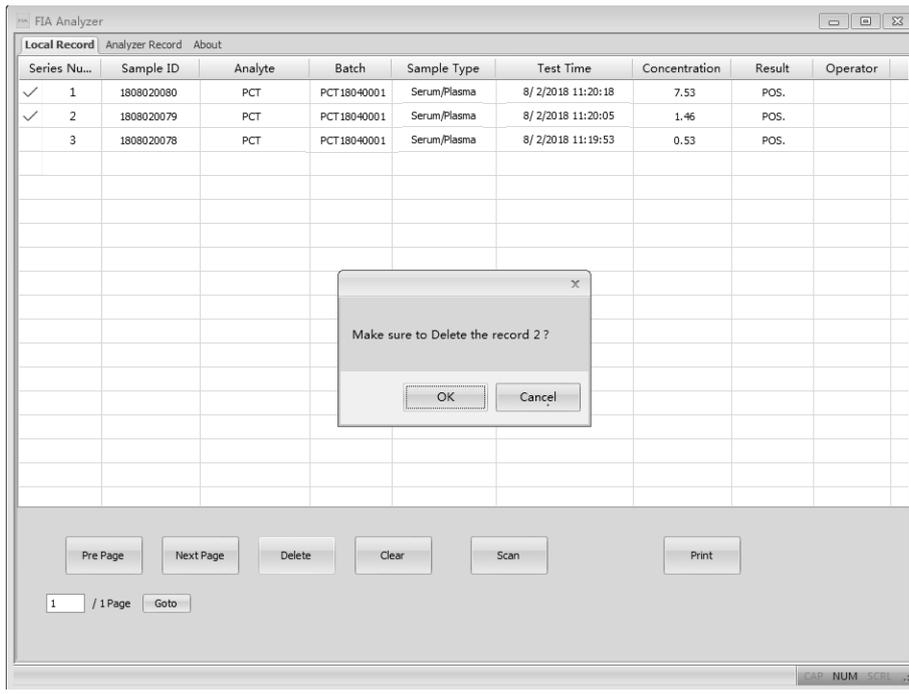

Fig 41
- **“Delete”**: Select the items to be deleted and click **“Delete”** Tab, you can get a prompt as in Fig 41 to confirm. Click **“OK”** to delete.